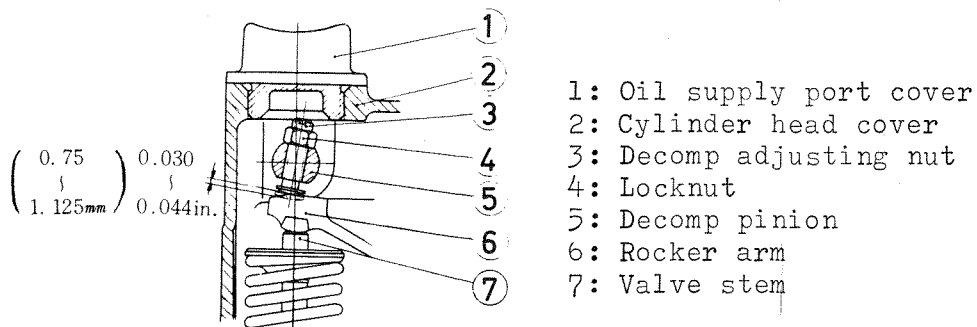

Fig. 21 Adjustment of Decomp Clearance
As shown in Fig. 21, set the exhaust valve in the completely closed condition and set the decomp adjusting bolt ③ to the valve clearance 0 position shown in the figure by thick lines. When the decomp adjusting bolt ③ is screwed